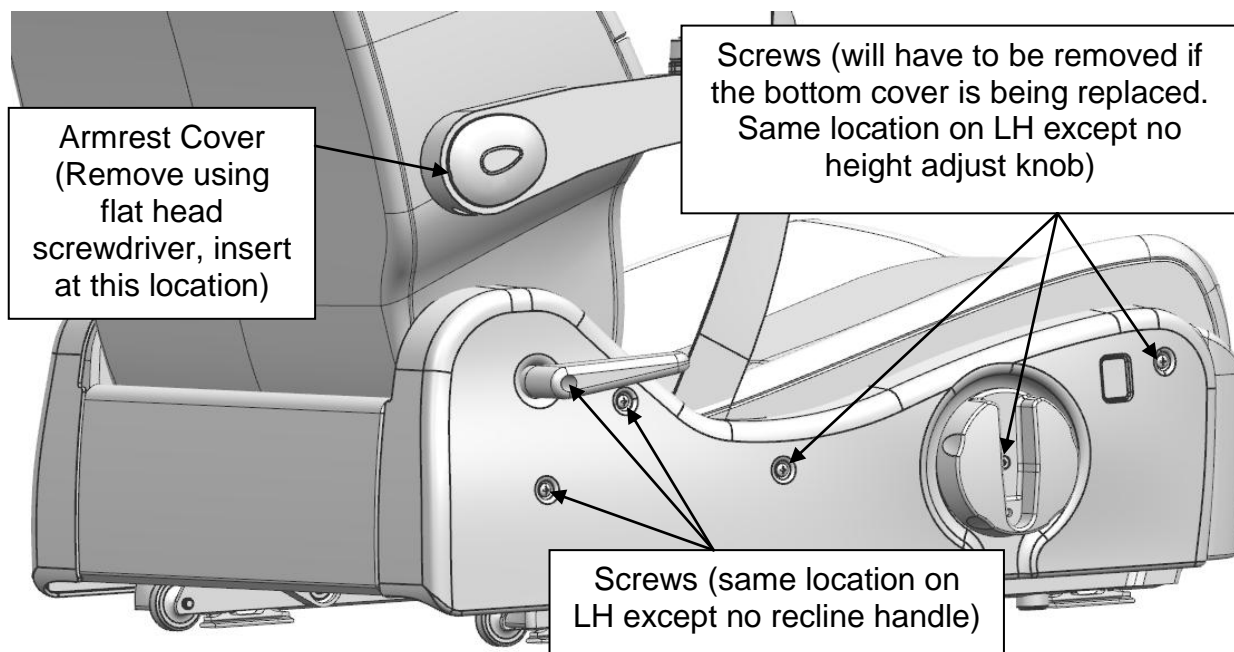

**Figure 3.1 Overall Seat Assy**
B. BEFORE ANY MODIFICATION: Refer to Figure 3.1 for part/item identification. Take pictures of the seat modification as needed for a record of the pre-modified seat.